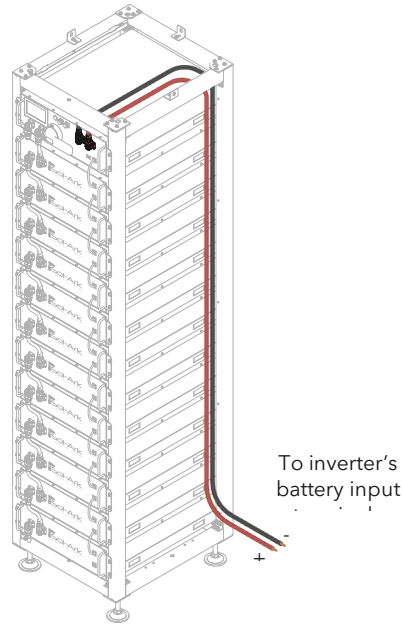

Figure 3: Battery to Inverter Wiring
- To interconnect an inverter, use the included Amphenol connectors. Run the wires from the positive and negative Amphenol connector (**P+**) and (**P-**) to the inverter's battery input terminals, as shown in Fig 3.